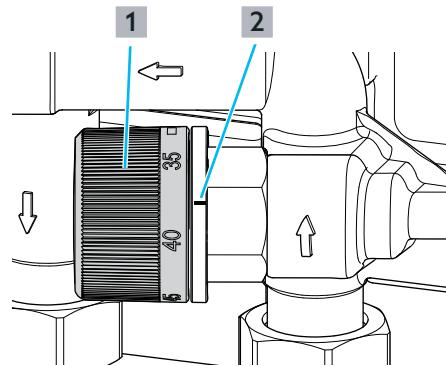

Fig. 17: Setting the derivative temperature control set
► Set the temperature to the desired value on the handwheel ((1) in Fig. 17 on page 23) of the derivative temperature control set.